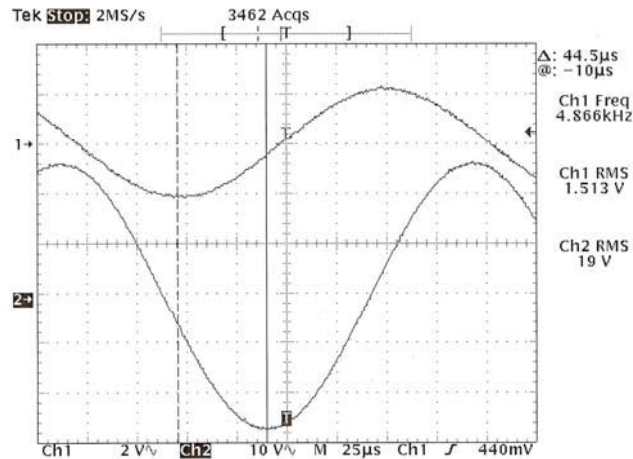

Figure 1.14
A typical trace near the resonant frequency, with the cursors placed at the troughs, is shown in Figure 1.14. [ For the waveforms in Figure 1.14,  $V_{out}$  (Ch2) lags  $V_{in}$  (Ch1) by  $360(4866)(44 \times 10^{-6})$  degrees or  $\sim 77^\circ$ ]
11. **Results (AC) :**
- The amplitude ratio  $V_{out}/V_{in}$  in Fig 1.14 is called the Voltage Gain  $A_v$ . From the two printouts of Step 10, obtain the values of  $A_v$  at the two frequencies  $f_1$  &  $f_2$  used.